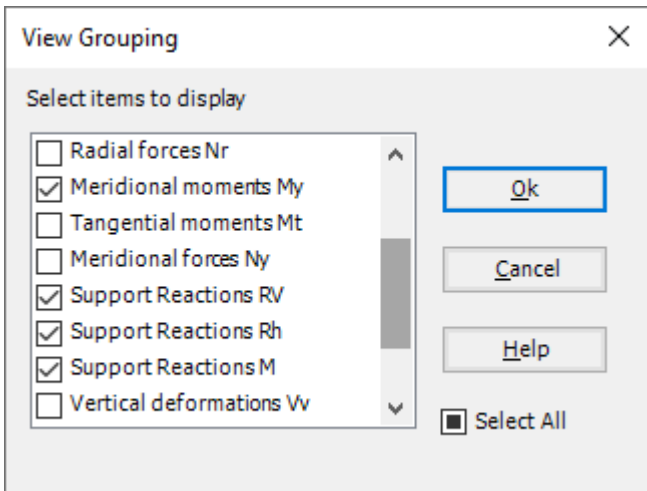

Figure 5.27 "View Grouping" check group box
- From "Options" menu in the "Graphic" tab, choose "View Grouping" command. The "View Grouping" check group box in Figure 5.27 appears